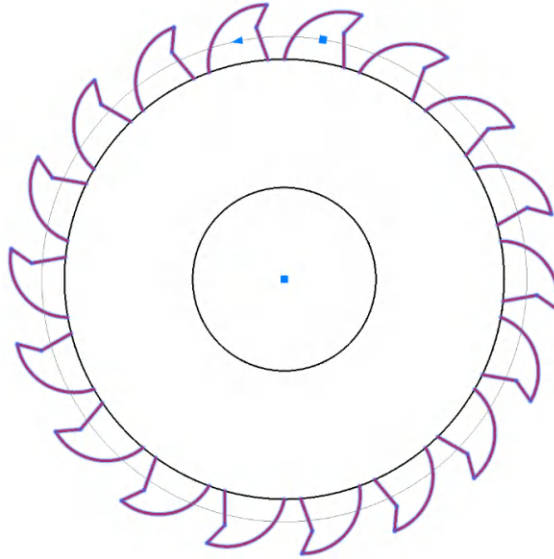

Figure 6.21: The associative Polar Array shown highlighted after selection
11. You now have 18 saw teeth in an associative **Polar Array**. Clicking on one of the saw teeth will select the array, highlighting it, as shown in *Figure 6.21*. Also, note that the contextual **Array** tab on the ribbon is displayed.